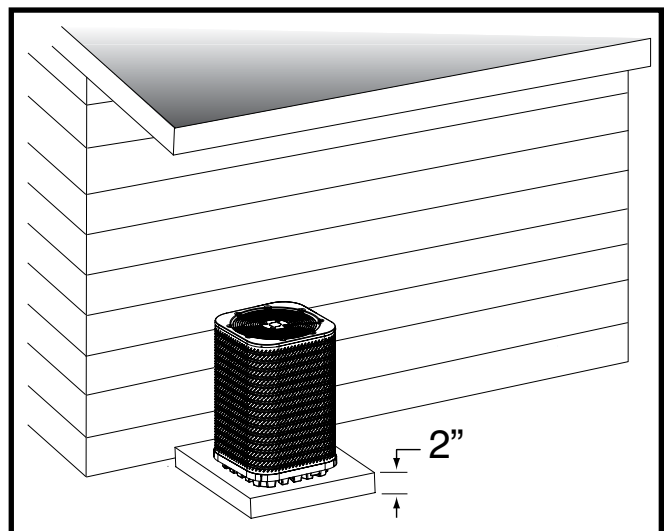

Figure 2. Ground Level Installation
- A suitable mounting pad (Figure 2) must be provided and separate from the building foundation. The pad must be level and strong enough to support the weight of the unit. The slab height must be a minimum of 2" (5 cm) above grade and with adequate drainage.